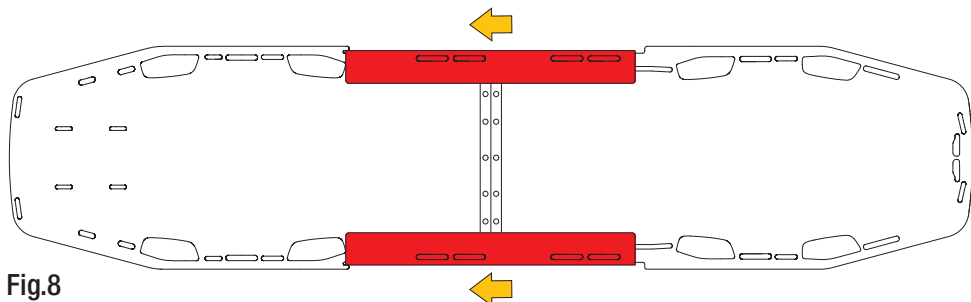

Fig.8
b) Slide the stiffening spars until they lock into the lateral grooves of the spinal board (fig. 8)